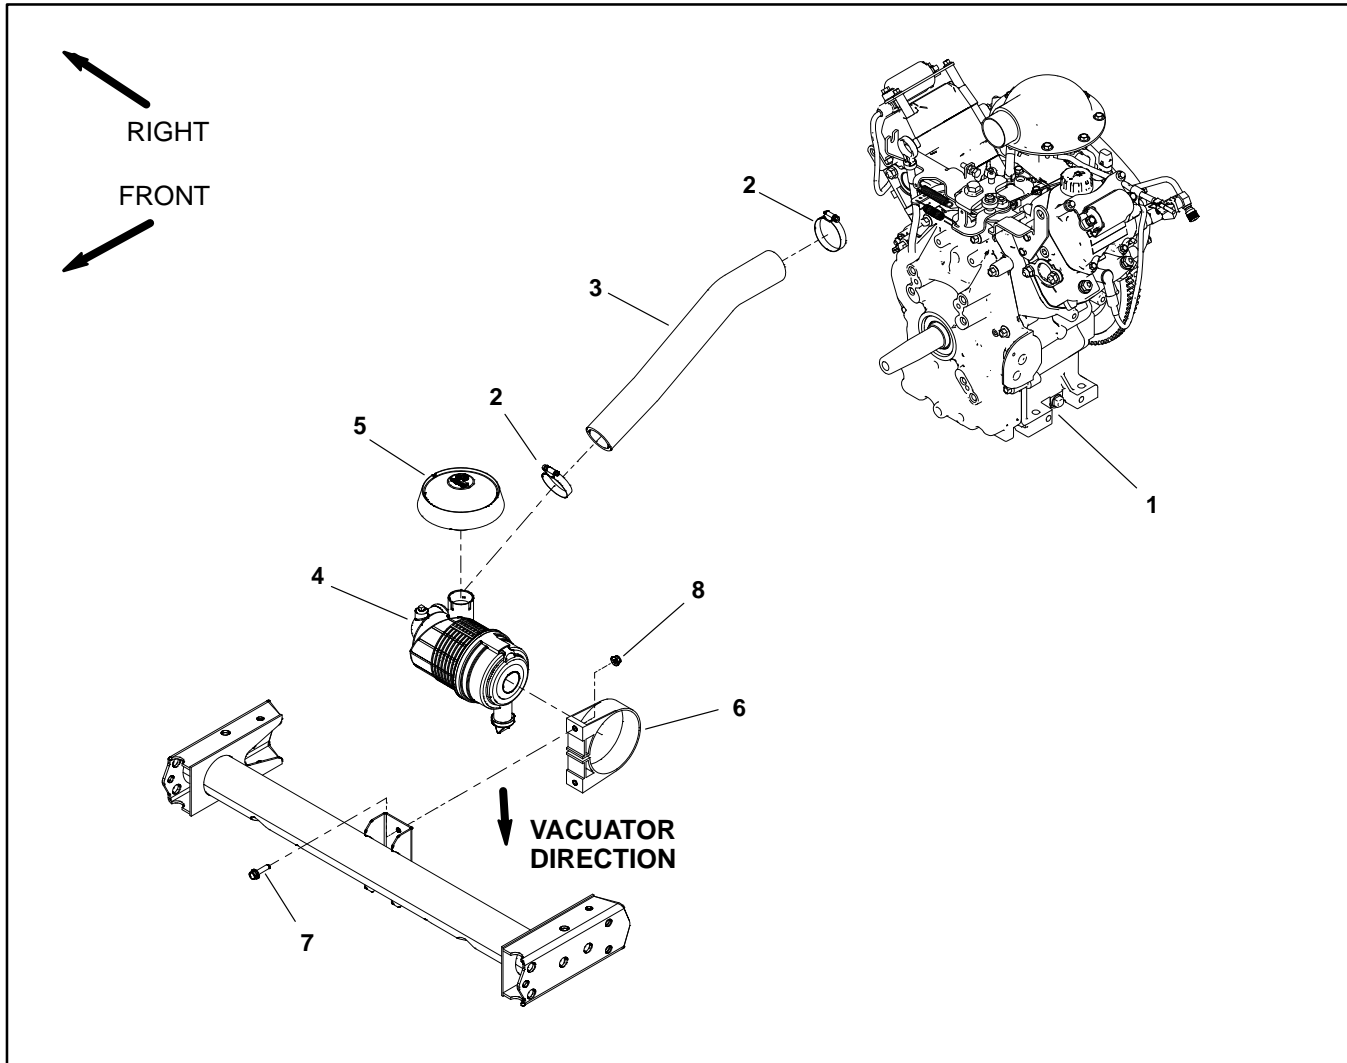

Figure 6
Removal (Fig. 6)
4. Remove air cleaner components as needed using Figures 6 and 7 as guides.
Installation (Fig. 6)
1. Assemble air cleaner system using Figures 6 and 7 as guides. The air inlet hood (item 5 in Fig. 6) should be positioned straight upward. The vacuator valve on the air cleaner assembly should be positioned downward.